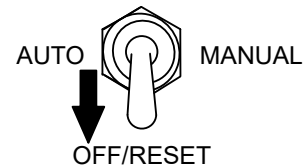

Figure 57. Auto Start/Stop Switch (OFF)
1. Place the **Auto Start/Stop switch** (Figure 57) in the **OFF/RESET** position.